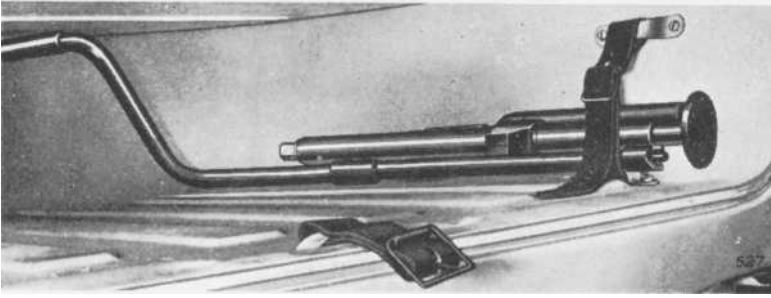
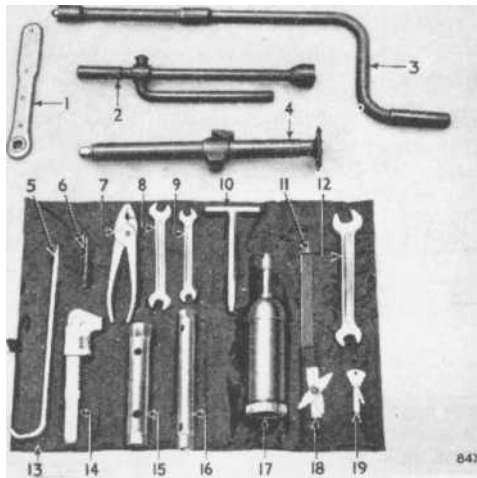

Fig. 19. Tools stowed in spare wheel compartment.
Fig. 20. Tools.
After removing the nave plate (Fig. 17), the wheel nuts (R.H. thread) can be detached with the wheel brace (2) (Fig. 20).
The jack and wheel brace are situated in the spare wheel compartment (Fig. 19). The remaining tools are placed in the tool roll and stowed in the luggage compartment. If the vehicle has wire wheels, then the wheel brace (2), combination tool (5) (Fig 20), are omitted from the tool kit and a screwdriver, tommy bar and copper-faced hammer are included.
| C. Soft top front attachment points. | F. Utilizing key 10 (Fig. 20) to detach side screens. |